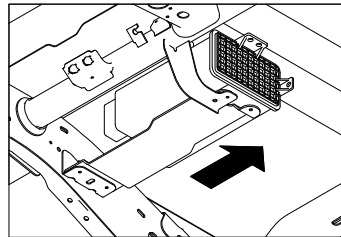
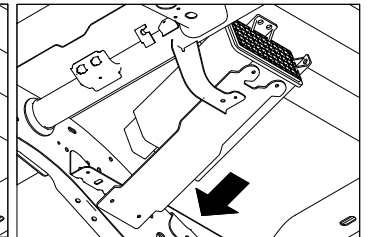

Figure A2: Looking up under the bed.
Figure A3
4. **Detach fuel valve canister, if needed.** Locate the rectangle shaped fuel valve canister. If it is mounted behind the tube frame cross member it will not interfere with the installation. If it is mounted in front of the tube frame cross member it will need to be lowered during the installation. First remove the three small bolts that hold the canister bracket to the truck using a 10mm wrench. Then slide the canister toward the center of the truck far enough to allow the end toward the frame to be pulled downward, see Figure A2. Then slide the canister back toward the frame to allow the complete canister to drop down about 4 to 5 inches providing space for installation, see Figure A3. The canister will be re-attached in a later step.